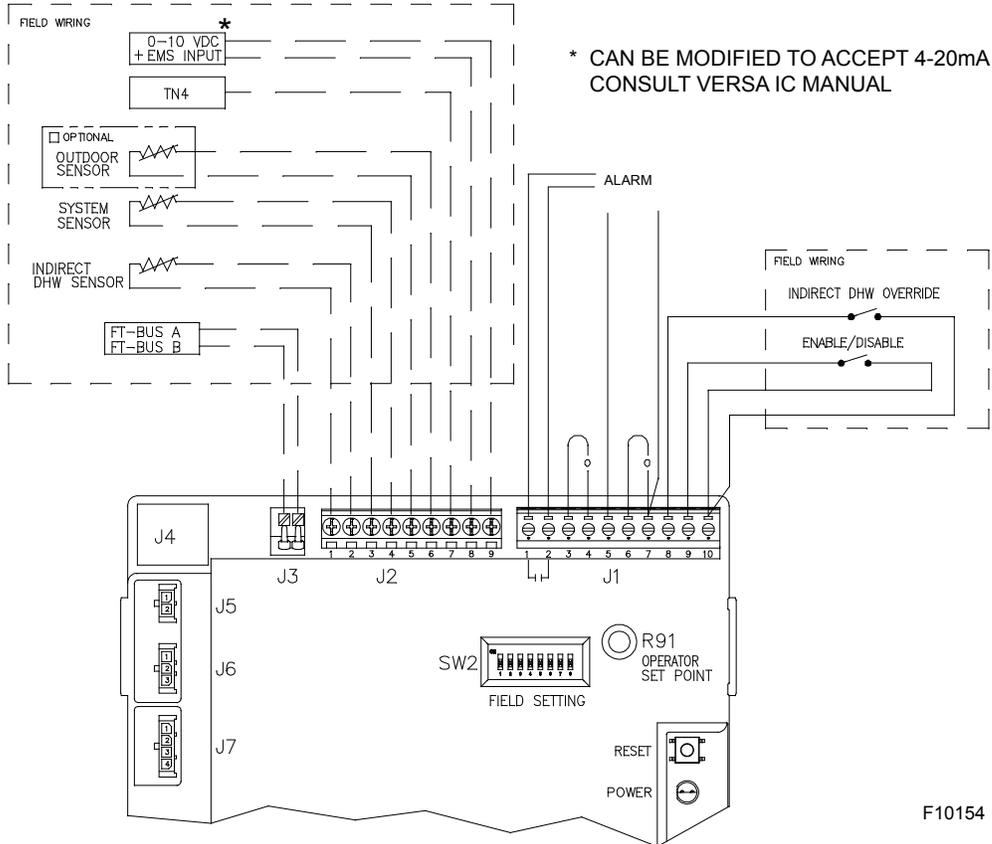

Figure 17. XFyre Single Heater Control
Connect the Enable/Disable terminals to the PIM. See **Figure 17**. Alternately, any dry contact closure (including a remote thermostat) across these terminals will enable the XFyre unit to run. Caution should be used to ensure neither of the terminals becomes connected to ground.
2. To enable this remote control function, set DIP switch 5 to the UP position on the PIM. DIP switch 5 Toggles between an EMS (UP) signal or a demand signal from the VERSA (DOWN). DIP switch 2 on the PIM toggles between a Direct Drive (UP) input and a Target Temperature (DOWN) setpoint.
4. Connect an Energy Management system or other auxiliary control signal to the terminals marked 0-10V (+ /-) on the PIM. See **Figure 17**. Caution should be used to ensure that the +0-10V connection does not create a short to ground.